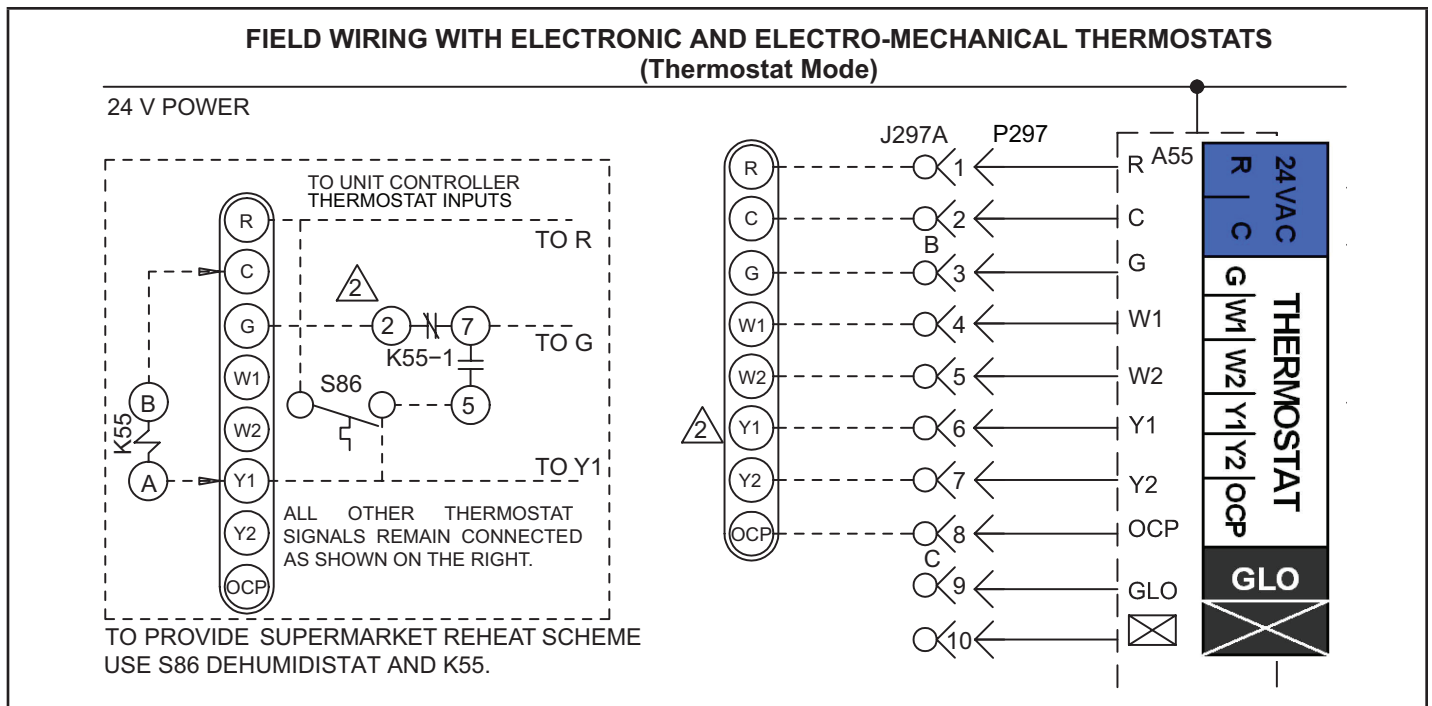
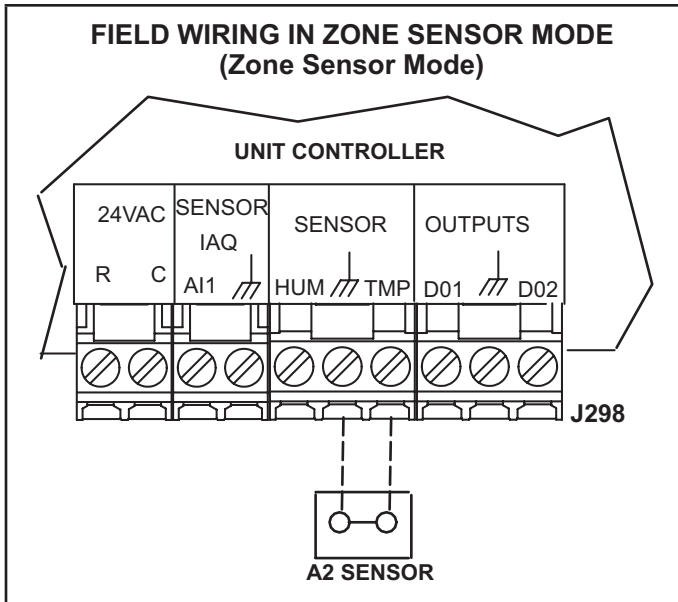
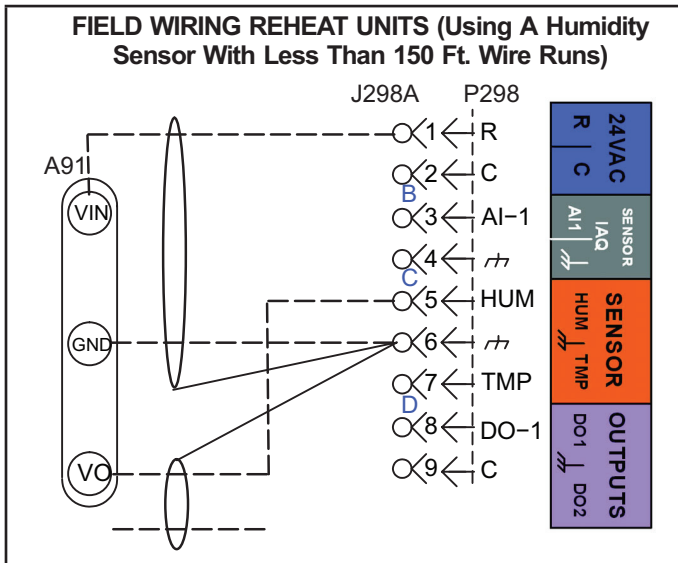
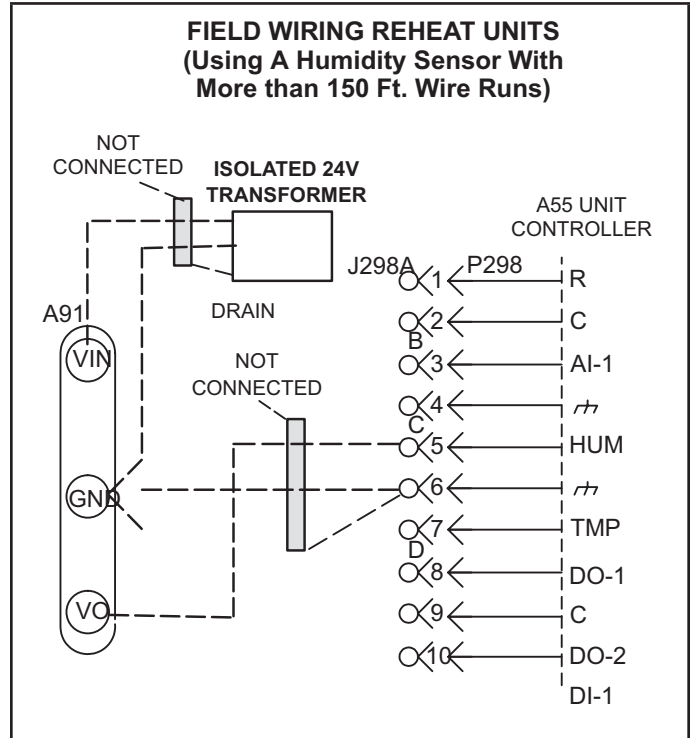

FIGURE 14
FIGURE 15
FIGURE 16
FIGURE 18
- 4 - Wire as shown in FIGURE 14 for electro-mechanical and electronic thermostats. If using other temperature control devices or energy management systems see instructions and wiring diagram provided by manufacturer.
The Unit Controller will operate heating and cooling based on the Unit Controller internal setpoints and the temperature from the A2 zone sensor. An optional Network Control Panel (NCP) can also be used to provide setpoints. A thermostat or return air sensor can be used as a back-up mode. Make zone sensor wiring connections as shown in FIGURE 15.
- 2 - Make wiring connections as shown in FIGURE 14 for Thermostat Mode or FIGURE 15 for Zone Sensor Mode. In addition, connect either a humidity sensor or a dehumidification input. See FIGURE 16 or FIGURE 18 for humidity sensor wiring or FIGURE 18 for dehumidification input wiring.
Use two separate shielded cables containing 20AWG minimum, twisted pair conductors with overall shield. Belden type 8762 or 88760 (plenum) or equivalent. Connect both cable shield drain wires to the Unit Controller as shown in FIGURE 16.
Use two separate shielded cables containing 18AWG minimum, twisted pair conductors with overall shield. Belden type 8760 or 88760 (plenum) or equivalent. Connect both cable shield drain wires to the Unit Controller as shown in FIGURE 16.
Use a local, isolated 24VAC transformer such as Lennox cat #18M13 (20VA minimum) to supply power to RH sensor as shown in FIGURE 18. Use two shielded cables containing 20AWG minimum, twisted pair conductors with overall shield. Belden type 8762 or 88760 (plenum) or equivalent.